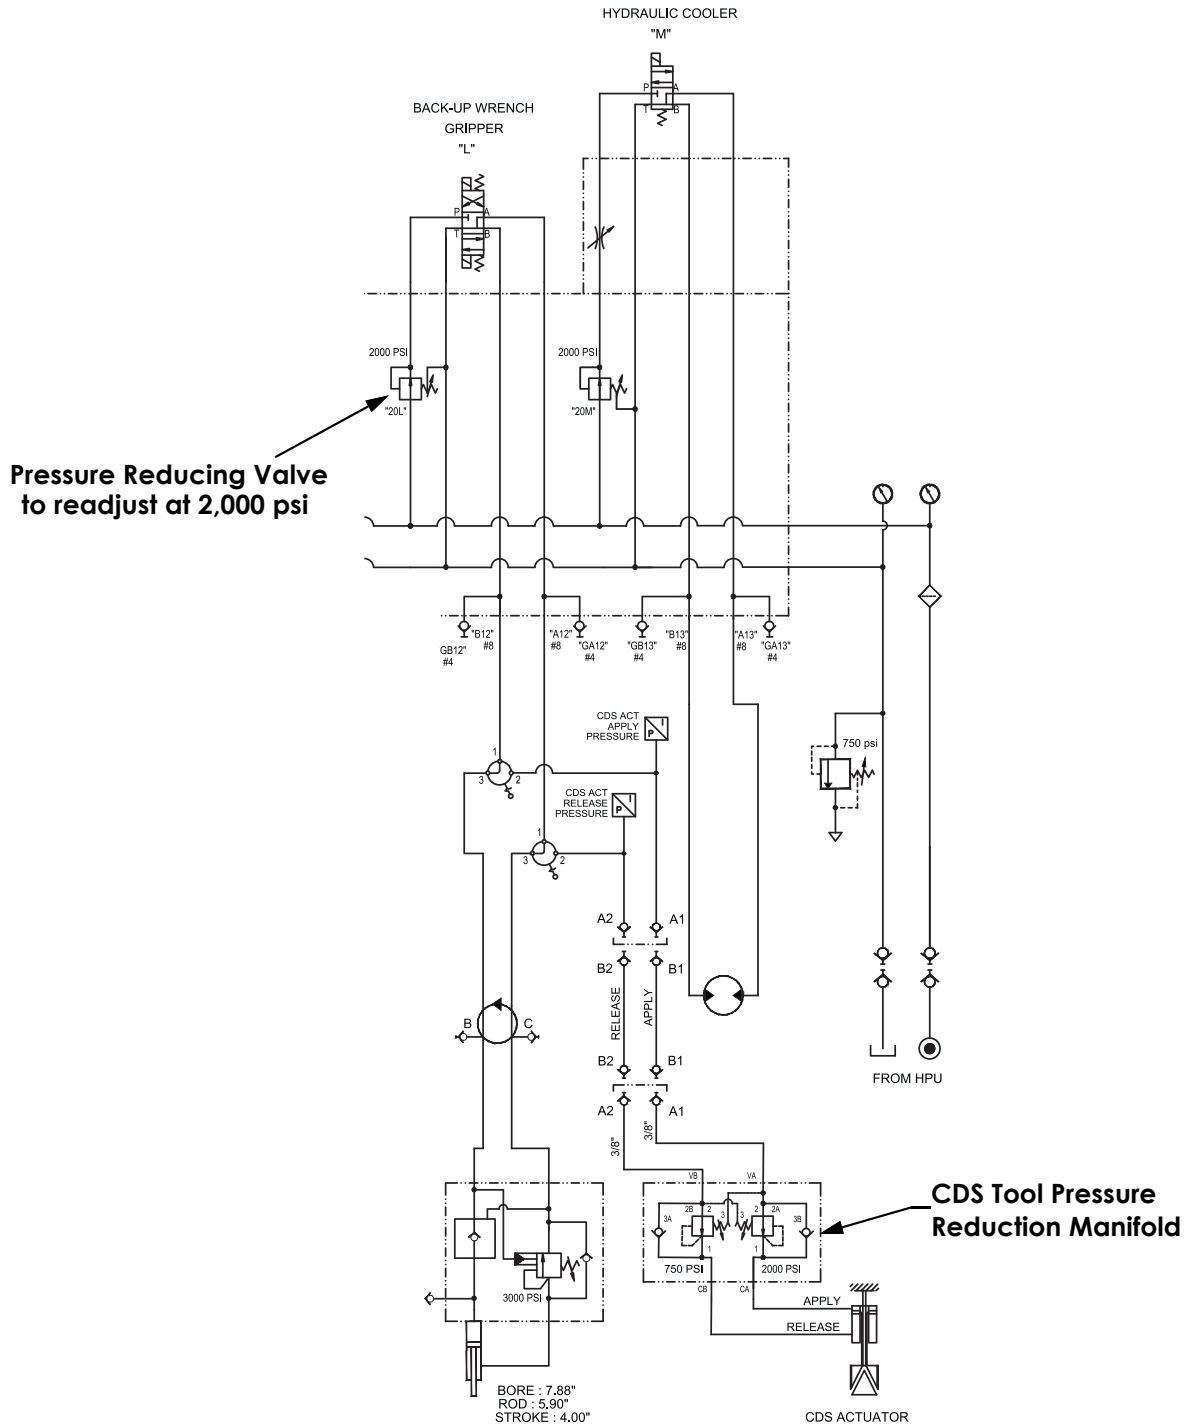

Figure 3: Schematic for the BUW after removing the pressure reducing valve without check valve
- If the kit (Canrig P/N: AY25154) is not being implemented per above, Canrig strongly recommends to remove the pressure reducing sandwich valve and install the BUW solenoid valve (DCV) back on manifold using socket head fasteners (Canrig P/N: SH-10-24-0200). See Figure 3 on page 4 for schematic.